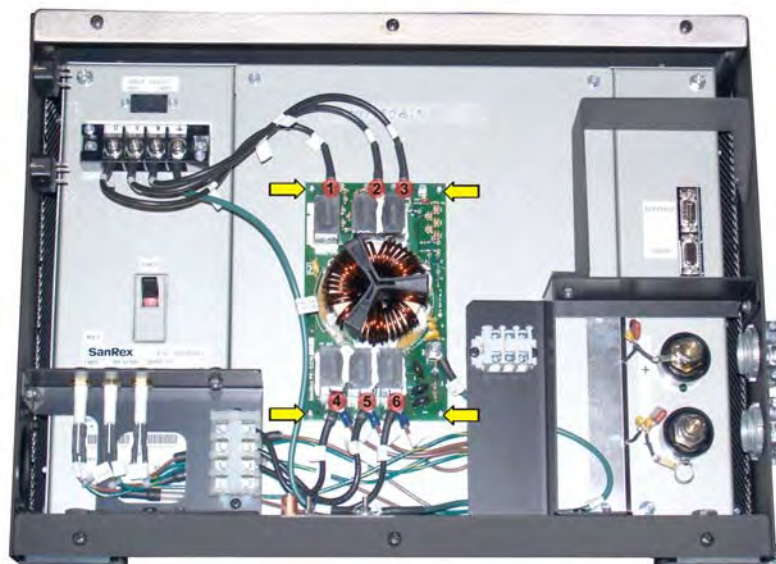

Figure 5-72 Remove Line Filter
3. Using a #2 Phillips™, remove the six screws securing the 10 harnesses on the line filter. **(Figure 5-72)**
5. Using a #2 Phillips™, remove the four screws securing the line filter to the LPS. **(Figure 5-72)**